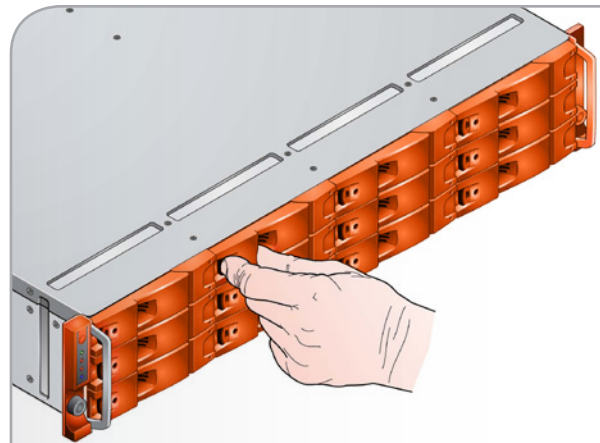

Fig. 41 - Removing a Drive Carrier Module (step 1)
1. Release the drive carrier handle, by pressing the latch in the handle towards the right (Fig. 41).